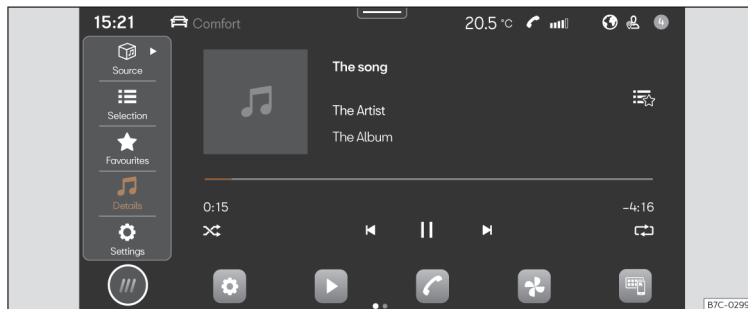

Fig. 130 Schematic representation: Multimedia view
- Press **HOME** > ► >>> **Fig. 130**.